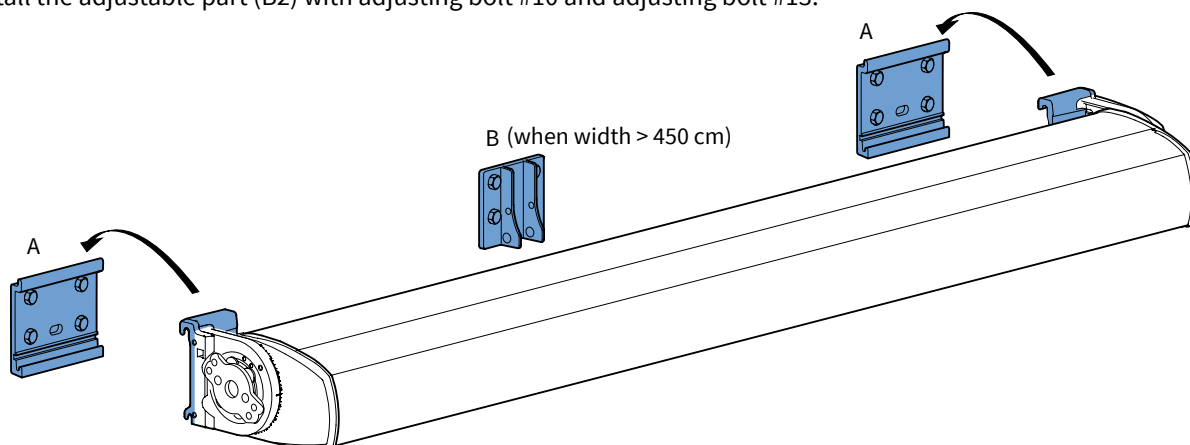

fig. 2.1 Hanging the awning
1. Hang the awning in the wall supports (A). View figure 2.1 and 2.2.